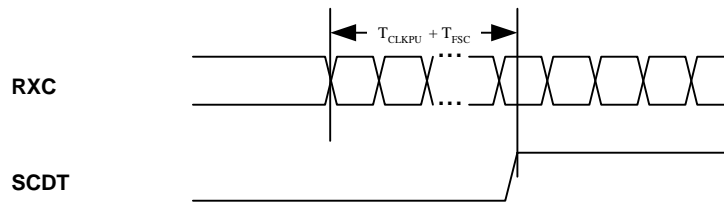

Figure 7. Wake-up on Clock Detect
- ⁷ Data is active (i.e. not tri-stated) but not valid yet. Data and controls are valid only when SCDT goes high. See T_{FSC} and Figure 7.